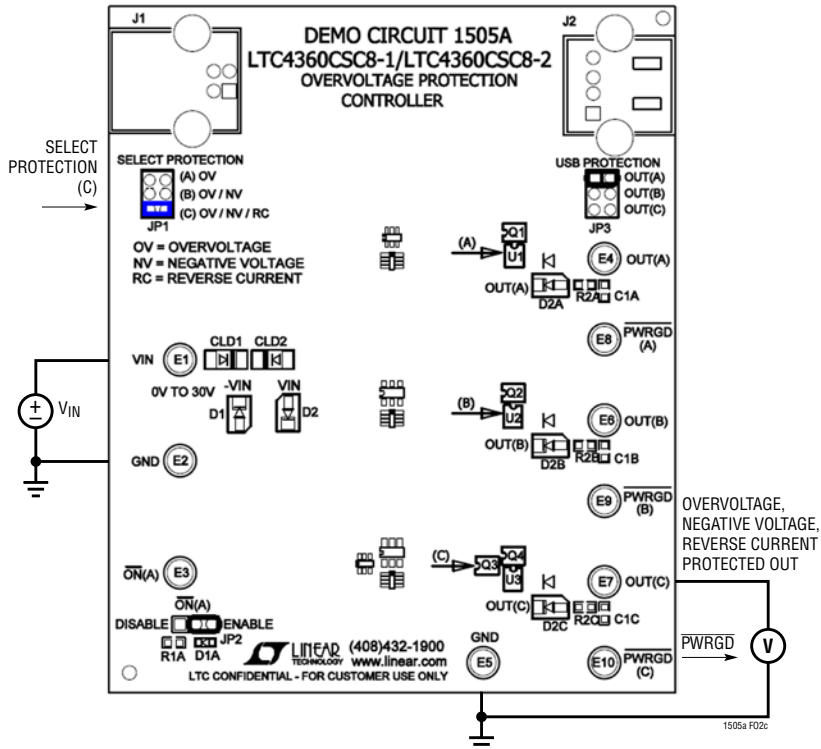
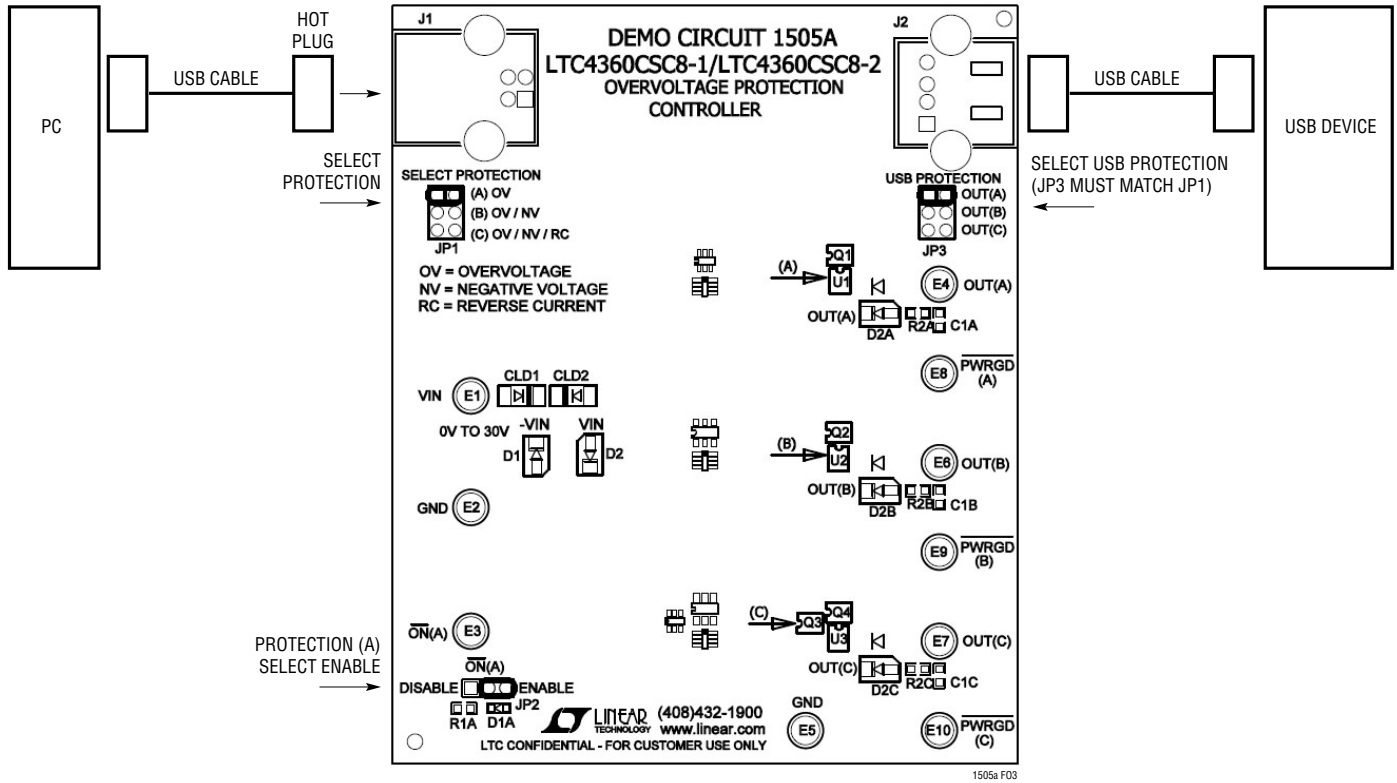

Figure 2c. DC1505A Protection (C) Setup for Overvoltage, Negative Voltage, and Reverse Current
Figure 3. DC1505A USB Protection Setup
Demonstration circuit 1505A is easy to set up to evaluate the performance of the LTC4360. Refer to Figure 2 and Figure 3 for proper measurement equipment setup and follow the procedure below.
- c. For overvoltage, negative voltage, and reverse current protection select “(C) OV/NV/RC”, connect to OUT(C) (Figure 2c).
3. Select ENABLE at JP2 to enable protection (A).
4. For USB protection, connect a USB cable from J2 to the USB device (Figure 3). Select the protection type at JP1 and match JP3 to JP1. Connect a second USB cable from a computer to J1.